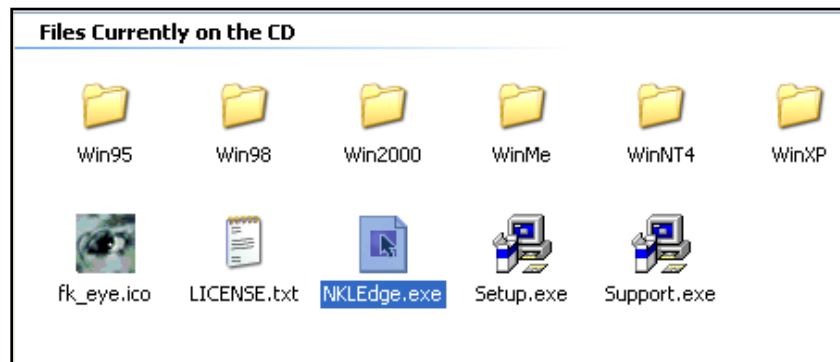

Fig 3.1
- 2) If the installation application did not start when the CD was inserted into the drive, open the CD in Windows Explorer. Locate and launch the **nkledge.exe** file (Fig. 3.1).